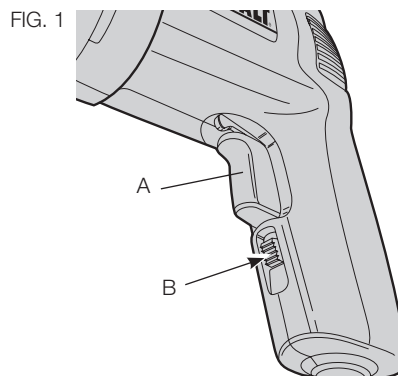

FIG. 3 SWITCH ASSEMBLY
Your drill is equipped with a switch lock-on feature. If you wish to disable this feature, take your tool to any authorized service center. The service center can provide a lock-out key (D) to prevent the unit from being locked in the on position (Fig. 3).